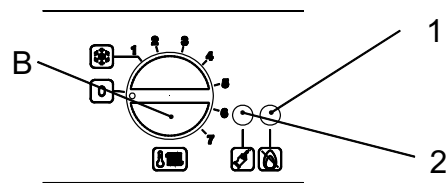

Figure 6.2
- This indicates that the safety lock-out 1 (Fig. 6.2) has stopped the boiler.
- To re-start the boiler, it is necessary to turn the function selector B in the position  and then press the boiler reset button 2 (Fig. 6.2).